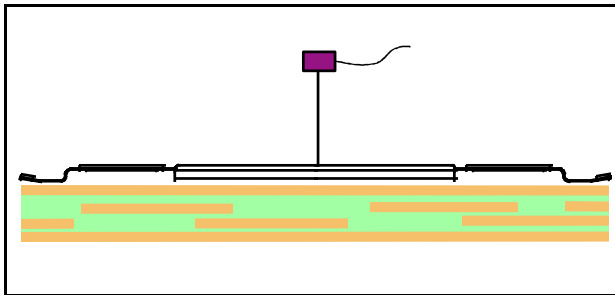

Figure 20. Technique for Measuring Case Temperature (TC)
- The thermocouple should be attached at a 90° angle as shown in Figure 20.